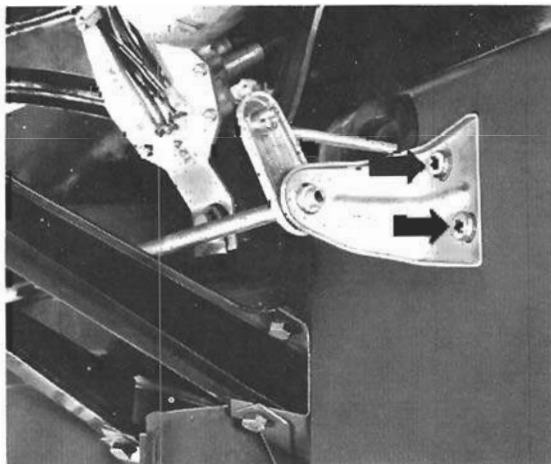

Fig. 10-6. Screws (arrows) that hold linkage to body.
7. Remove the Phillips head screws that hold the linkage brackets to the body (Fig. 10-6). Then remove the linkage from the vehicle.